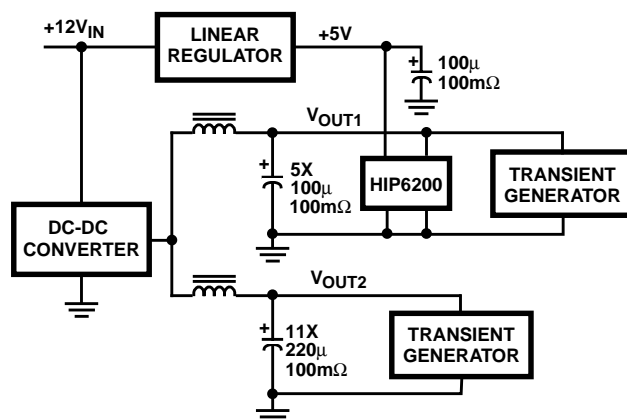

FIGURE 2. BLOCK DIAGRAM OF HIP6200EVAL1
The HIP6200EVAL1 is an evaluation board which demonstrates the DeCAPitator's effectiveness in dealing with high-speed load transients. The board consists of a DC-DC converter with two different output stages: (1) a simple L-C filter containing eleven 220μF low-ESR tantalums, and (2) an L-C filter with only five 100μF low-ESR tantalums and the HIP6200 and its associated circuitry. On each output stage is a high edge-rate transient generator capable of producing 8A (or higher) transients. A block diagram of the evaluation board is shown in Figure 2 and the complete schematic, bill-of-materials, and board description is contained in the appendix.